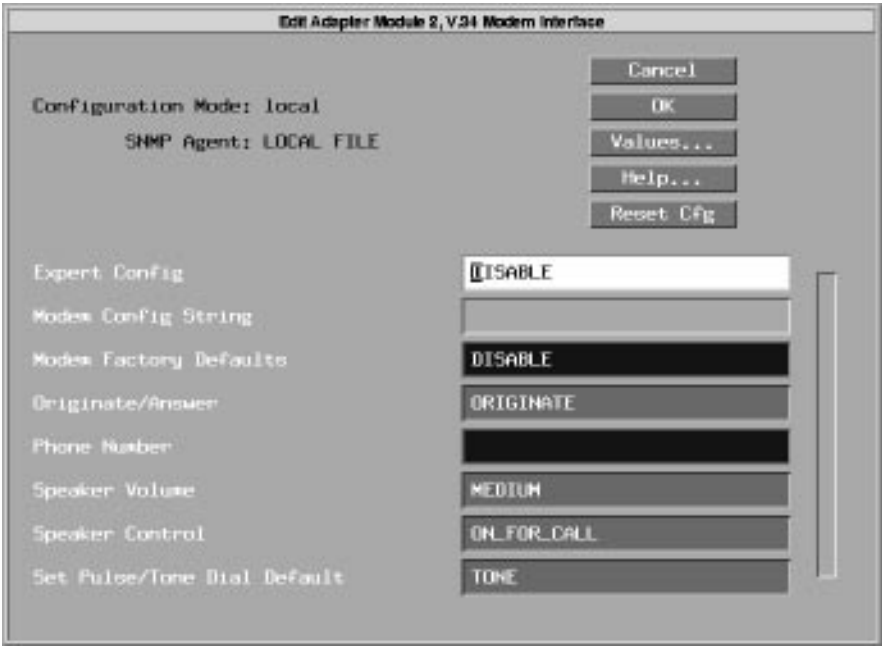

Figure 10. Edit V.34 Modem Interface Parameters Window
The Edit Adapter Module V.34 Modem Interface window appears \(Figure 10\).
1. **In the Edit Adapter Module V.34 Modem Interface window (refer to Figure 10), set the Expert Config parameter to Enabled.**